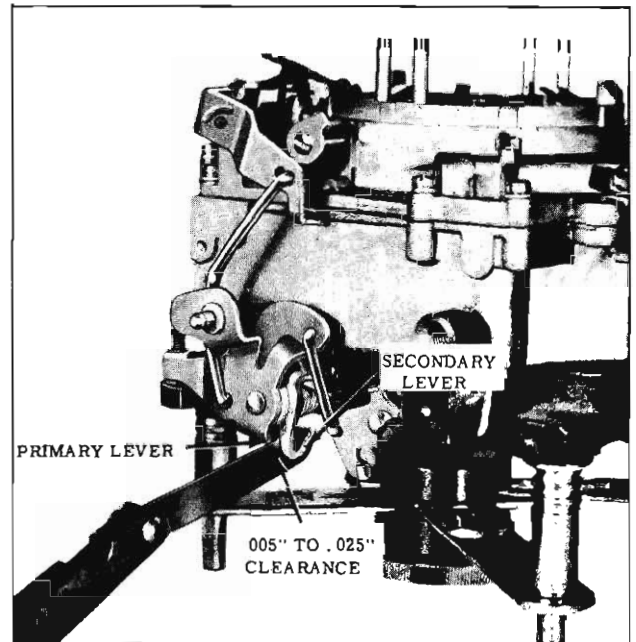

Fig. 4-175 Secondary Actuating Lever Adjustment
2. Remove slack from linkage and insert a feeler gauge between the actuating lever and the primary lever. (Fig. 4-175)